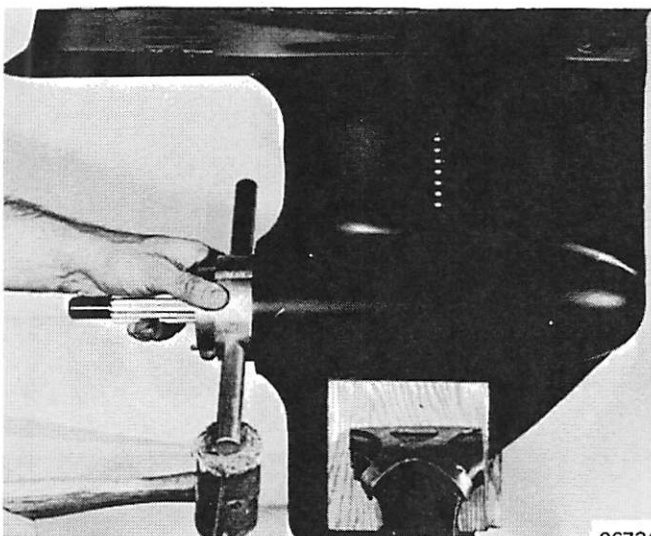

Figure 4. Removing Gear Case Cover
5. Remove gear housing cover and washer with Gear Housing Cover Tool (C-91-30291A1). Place tool over end of propeller shaft and set tool into cover, turning counter-clockwise (right hand thread) to loosen. (Figure 4) If tight, strike handle of tool with mallet to loosen.